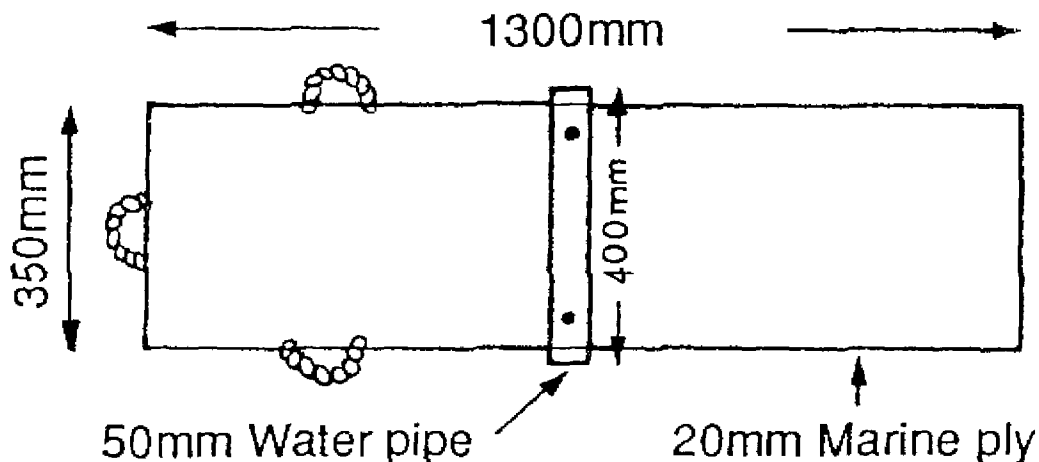

Figure 10.1
- c. rope handles are attached through holes drilled at the head and sides of the board (see Fig 10.1).